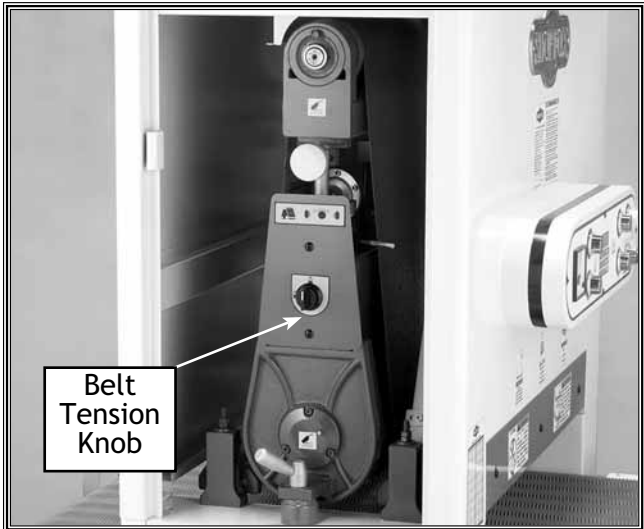

Figure 14. Belt tension knob.
The belt tracking knob and lever (Figure 14) and responsible for keeping the belt in “same-speed” left-to-right motion during sanding. Your goal is to position the belt tracking lever so the belt left-and-right movement takes approximately the same amount of time.
- If the belt tracks faster to the right, but is slow to track back to the left, loosen the belt tracking knob and push the lever slightly to the left and retighten the knob. See **Figure 14**.
- If the belt tracks faster to the left, but is slow to track back to the right, loosen the belt tracking knob and push the lever slightly to the right and retighten the knob. See **Figure 14**.